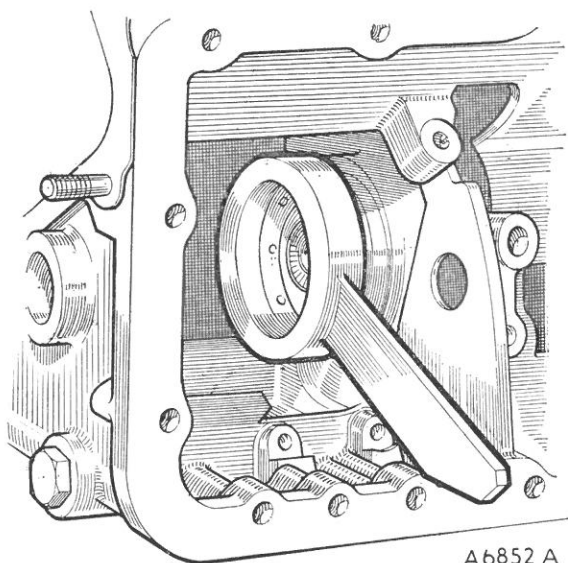
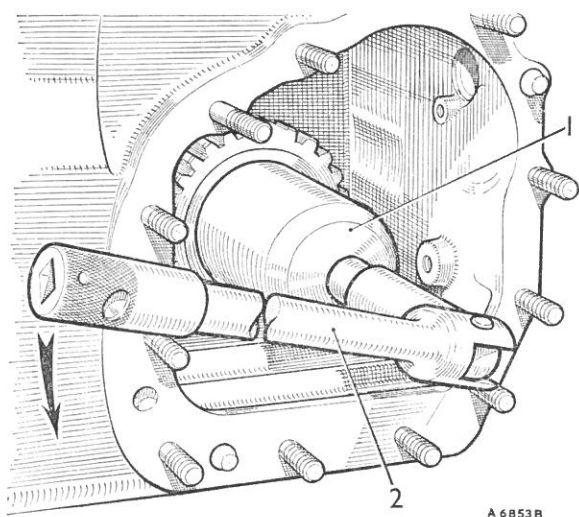

Fig. Fa.14
Fig. Fa.15
- (16) Remove the main oil feed pipe and strainer (see item (2a) ).
- (17) Knock back the lock washer on the nut on the forward clutch splines and use Service tool 18G 1095 to hold the top and reverse clutch hub (Fig. Fa.14) and remove the nut with 18G 1096 (Fig. Fa.15). Drift out the top and reverse clutch hub and lift out the piston assembly.